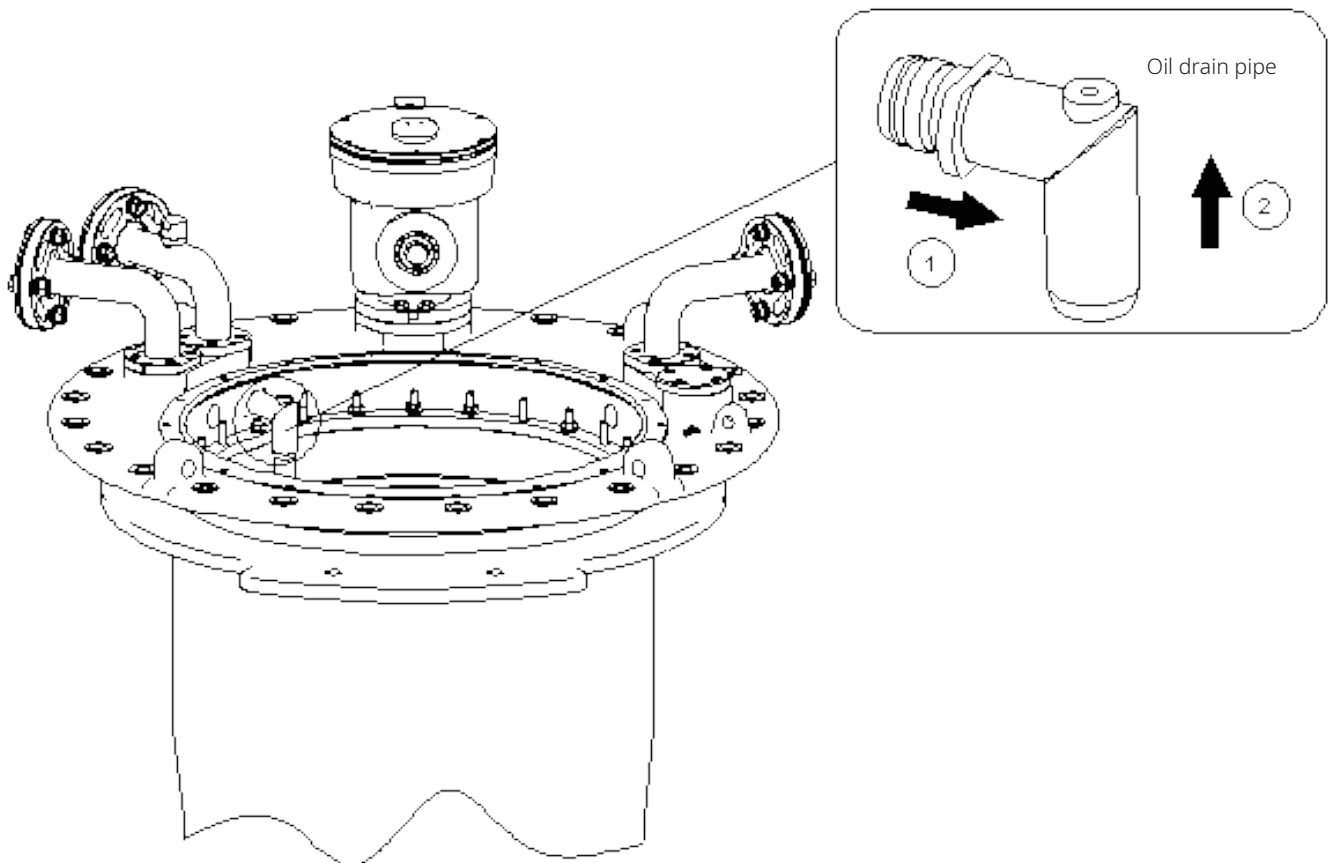

Figure 5-6 Oil Drain Pipe Removal Diagram
6. Remove the oil drain pipe (see Figure 5-6).